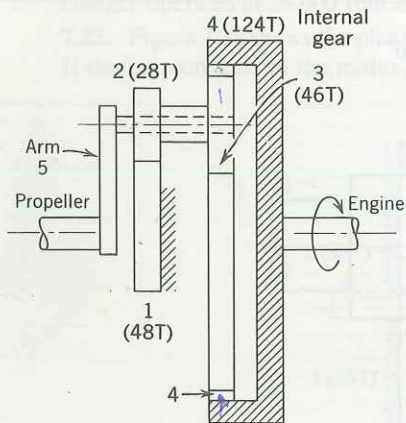

FIGURE 7.40
7.25. An aircraft propeller reduction drive is shown diagrammatically in Fig. 7.40. Determine the propeller speed in magnitude and direction if the engine turns at 2450 rpm in the direction indicated.